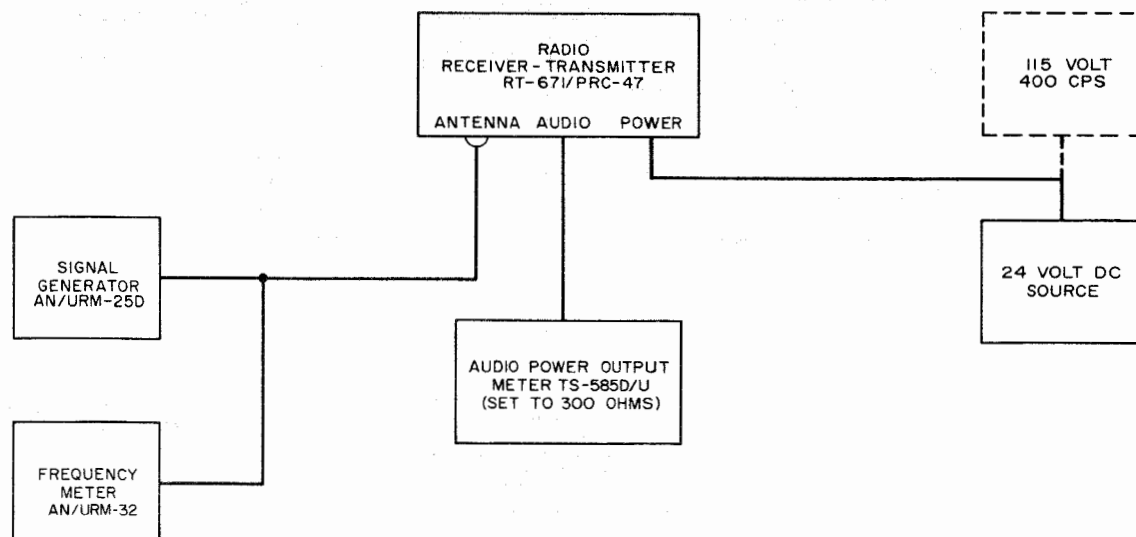

Figure 6-3. Receiver Test Setup
(1) Connect test equipment and receiver-transmitter as shown in figure 6-3.
(2) Set switches and controls on receiver-transmitter to positions as follows: